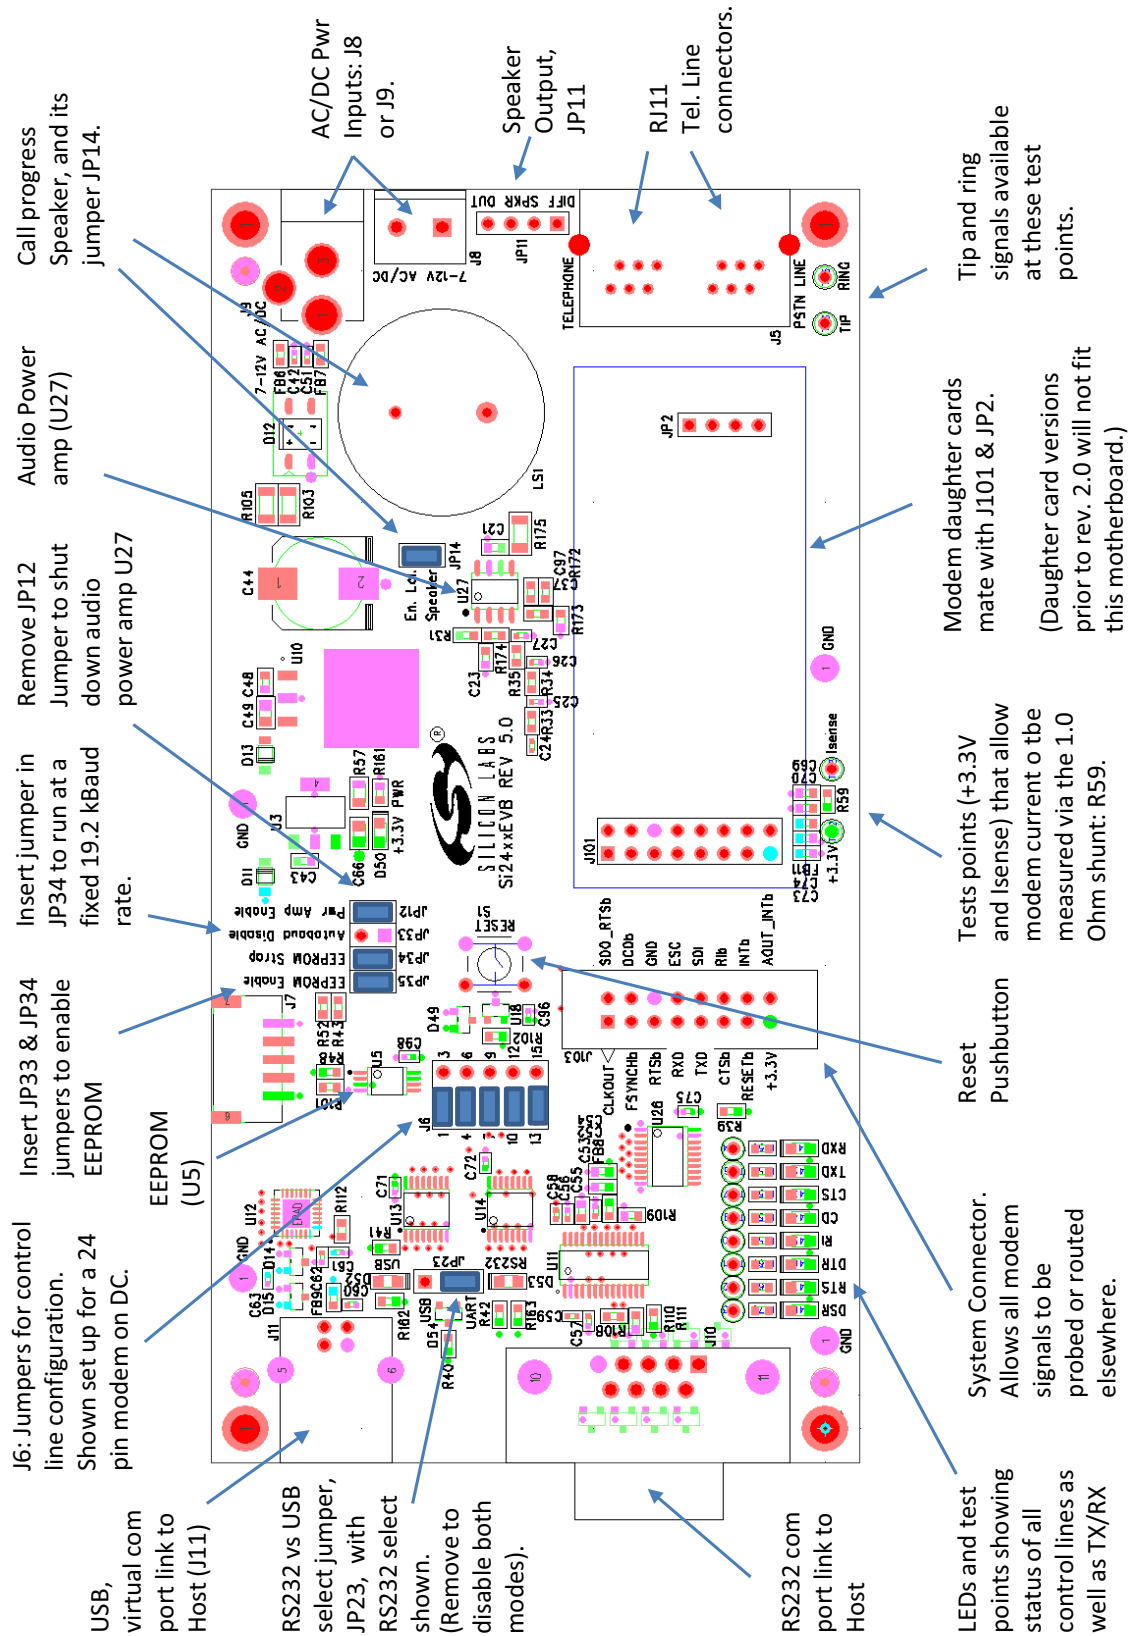
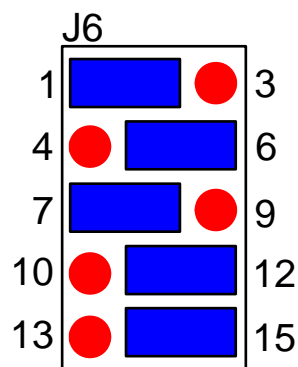

Figure 1. Default Motherboard Setup
Figure 3. Default J6 Setup for 16-Pin Modem Chips
1. Set jumpers according to Figure 1, but change J6 to the arrangement shown in Figure 3 if an FS ISModem package is used.
1. Set jumpers according to Figure 3, but change J6 to the arrangement shown in Figure 3 if an FS ISModem package is used.
Figure 1 shows the default motherboard setup for the FT package daughter card as well as the functions of connectors and jumpers.
To change to USB operation simply move the RS232 selection jumper on JP23 to the USB position as marked on the PCB and shown in Figure 1. When the USB vs UART settings are changed the appropriate indicator LED will light up on the EVB.